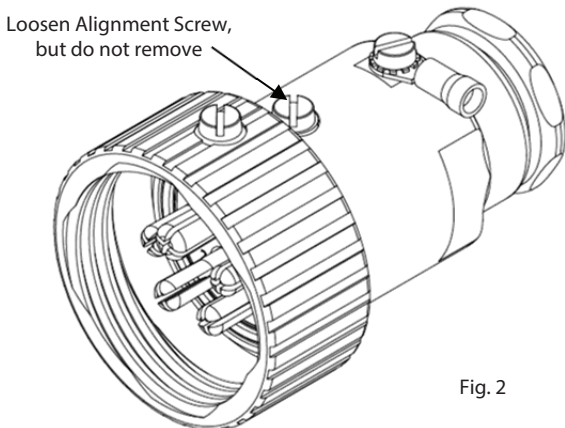

Fig. 2
- Once the connector plug has been unpacked, the insert must be removed to allow for assembly. Loosening the screw on the body of the connector as shown below in Fig. 2 until the insert is free to be removed from the connector. **Do not** fully remove the screw. Safely store insert until required.